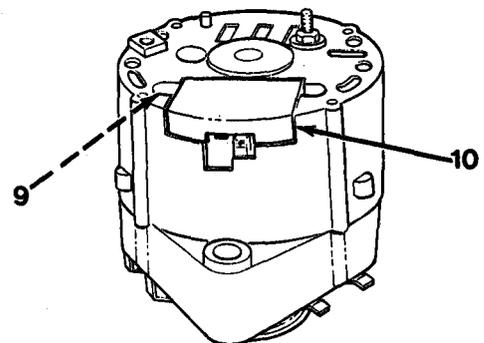

Figure 10-3
16. Plug in and install voltage regulator (10) and two self-tapping screws (9, Figure 10-3).